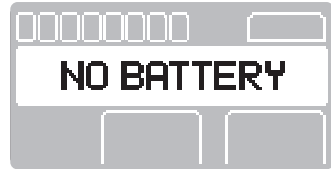

Figure 7 – No Battery Message
1. Install a clean, dry battery pack into a compatible charger module with a NO BATTERY message screen (figure 7).